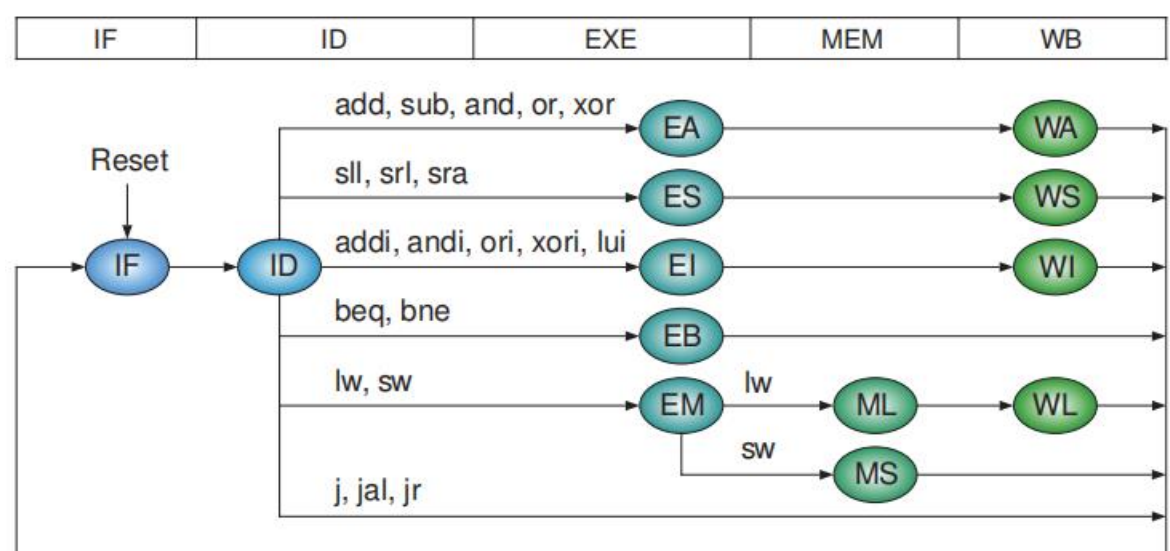

Figure 7.16 Another state transition diagram of an MC CPU
4. *Design an MC CPU with the state transition diagram of Figure 7.16.*